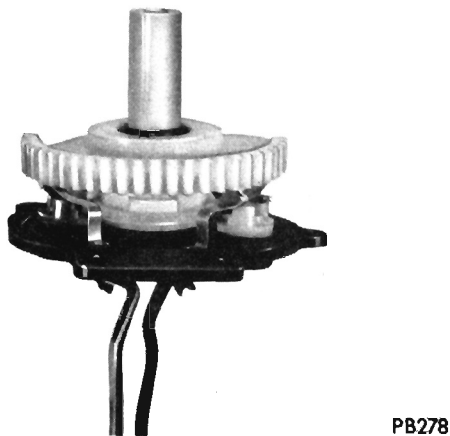

Fig. 6 - Testing Switch Operation
(7) Test switch operation by inserting the cam side of the gear assembly into the switch plate as shown in Figure 6. Rotate the gear assembly, while pressing it against the switch plate, to open and close the limit switches and observe their operation.